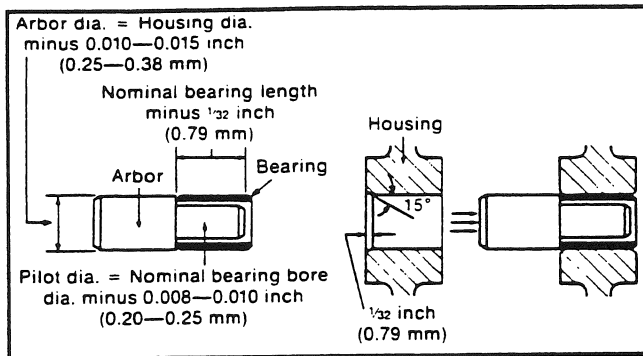

Fig. 98
- You should install the inner and outer bushings using a stepped mandrel, preferably made from case-hardened mild steel. To make an appropriate stepped mandrel, refer to the following chart and Fig. 98.